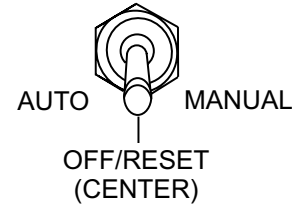

Figure 88. Auto Off/Reset Manual Switch (Off/Reset Position)
- Place the Auto Start/Stop Switch (Figure 88) in the "Off/Reset" position.